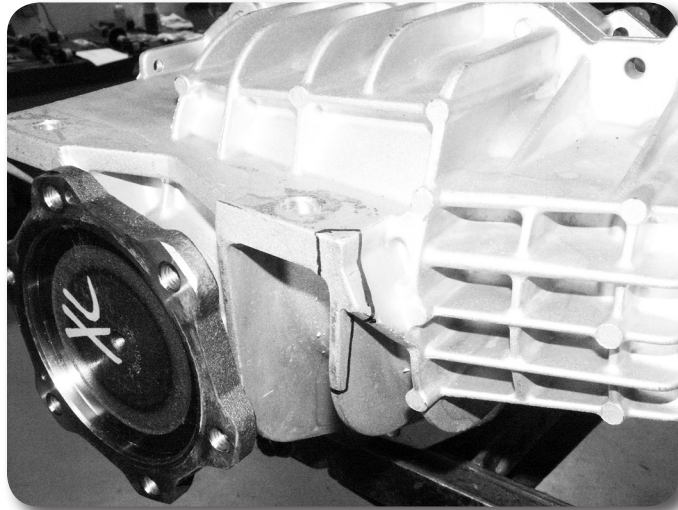

Figure 18
28. The small corner of the differential housing needs to be slightly trimmed **Figure 18** to provided adequate clearance to the control arm when installed. Only about 1/4" of material needs to be removed along the length of the corner. The trimming can be done with a reciprocating saw, hack saw or grinder. Measure from the top corner and mark 1/4" in both directions. Extend the cut lines down along the housing.